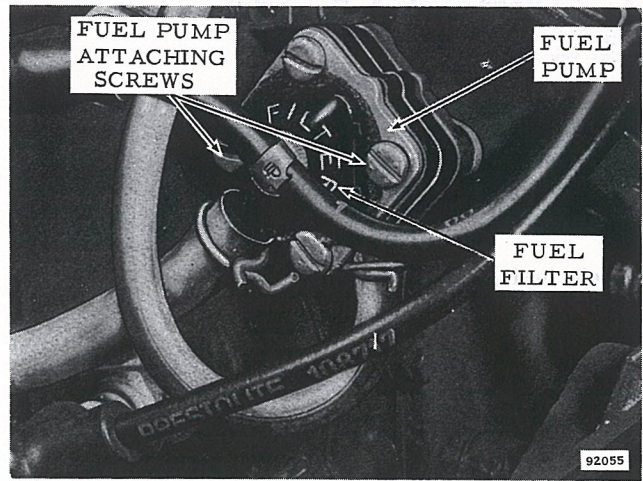

Figure 3-20. Fuel Pump and Filter
Before replacing fuel pump, remove and clean the fuel filter, and install a new filter element. See Figure 3-20. Also remove the fuel line from the fuel tank and blow through all passages and lines with compressed air to be sure they are open. This may be the cause of inadequate fuel delivery, and if so, would eliminate unnecessary replacement of the fuel pump. If this procedure does not correct the trouble, fuel pump is probably malfunctioning and should be replaced.
- To remove fuel pump, remove two screws attaching pump and filter assembly to power head, and remove pump and filter assembly. See Figure 3-20.
- To remove fuel filter, remove screw and cover attaching filter to fuel pump. See Figure 3-20.